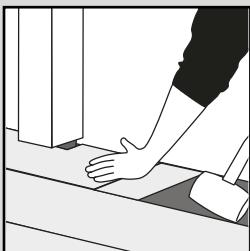

Fig. 6
7. Under door frames: If plank/tile cannot be lifted use an adapted tapping block (off-cut of material) and mallet to carefully tap the plank/tile together flat on the floor (Fig. 6).